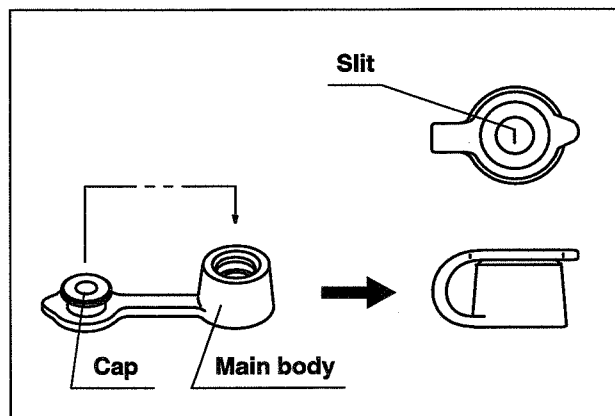

Figure 3.6
2. Attach the cap to the main body (see Figure 3.6).